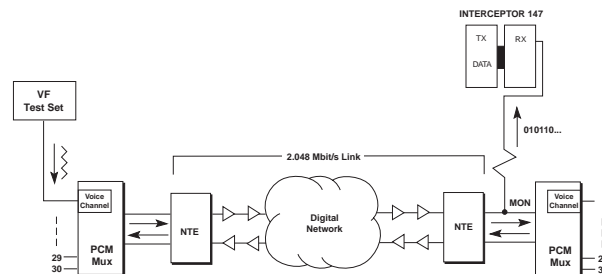

Figure 7-3
You can use the INTERCEPTOR 147 on the digital (line) side of a PCM multiplexer (mux). First use a Voice Frequency (VF) test set to insert a test tone into the analog input of a voice channel card in the mux (as shown in Figure 7-3). Then use the INTERCEPTOR 147 to measure the level and frequency of that test tone as it is received. You can also use the INTERCEPTOR 147's speaker to monitor the voice channel (with or without a test tone present) to identify severe noise problems.